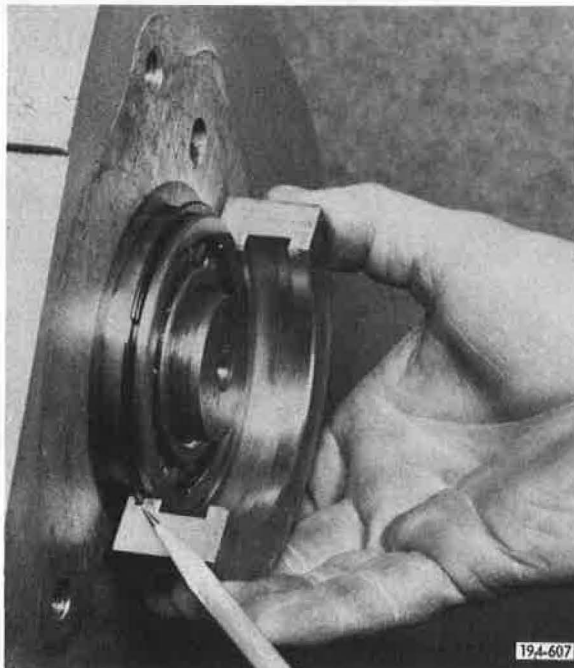

Figure 5-726. Installing First Clamping Half
15. Position the first clamping half of tool S593C to engage the snap ring, as shown in Figure 5-726. Note pencil pointing to snap ring and corresponding groove in tool.